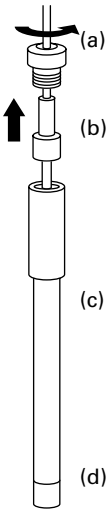

Fig. 1
1. Hold the electrode vertically and unscrew the electrode cap (a) from the electrode body (c). See **Figure 1**.
2. Carefully remove the glass inner body (b) from the outer body (c). See **Figure 1**. Dispose of any electrode filling solution that is in the outer body.